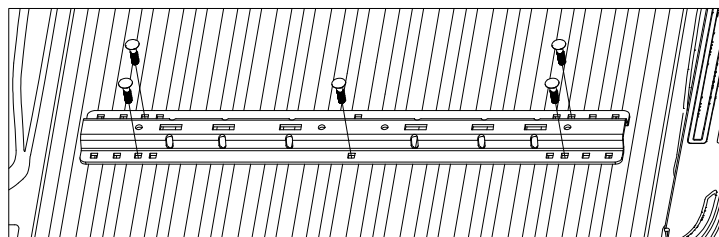
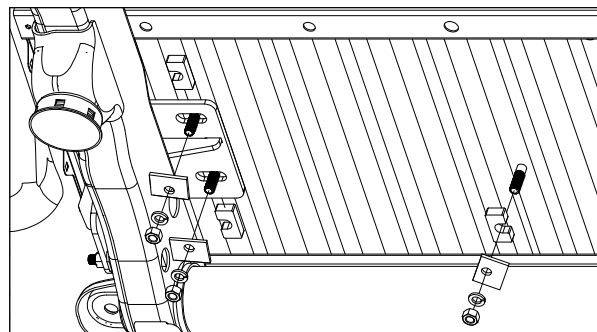

Figure D1: View looking into the back of the truck.
Figure D2: View looking under bed at passenger side plate.
- 1. The rear mounting rail.** Re-position the rear mounting rail over the drilled 9/16" holes in the bed. Install five 1/2" x 2" carriage bolts through the five drilled positions, as shown in Figure D1. Under the bed place a U-shaped spacer between the side plate flanges and the bed around each of the five carriage bolts, see Figure D2. Secure each of the five carriage bolts with an offset rectangle washer, lock washer and nut. Hand tighten hardware only at this time.